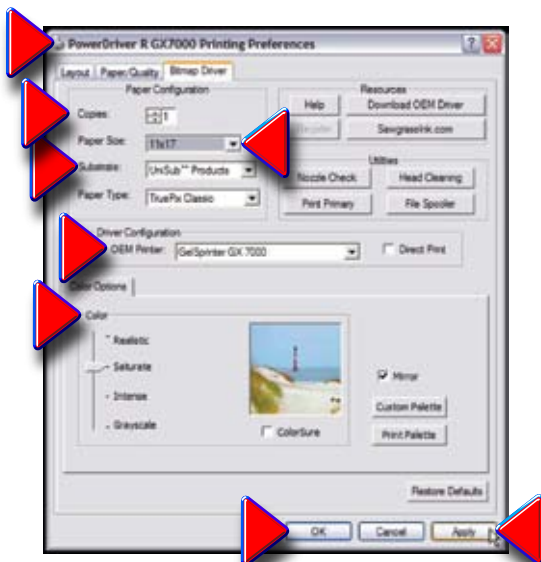

Figure 4
- Click on the **“Printing Preferences”** Button, bringing you to the **“PowerDriver R GX7000 Printing Preferences”** Screen (**Figure 4**). After setting the **Paper Size**, **PaperType**, **Number of copies**, **Substrate**, **OEM printer**, and **Color** that your image requires, Click **“Apply”**, then **“Ok”**, to return to the **“Properties”** Screen. Click **“Ok”** to return to the **“Printers”** List.